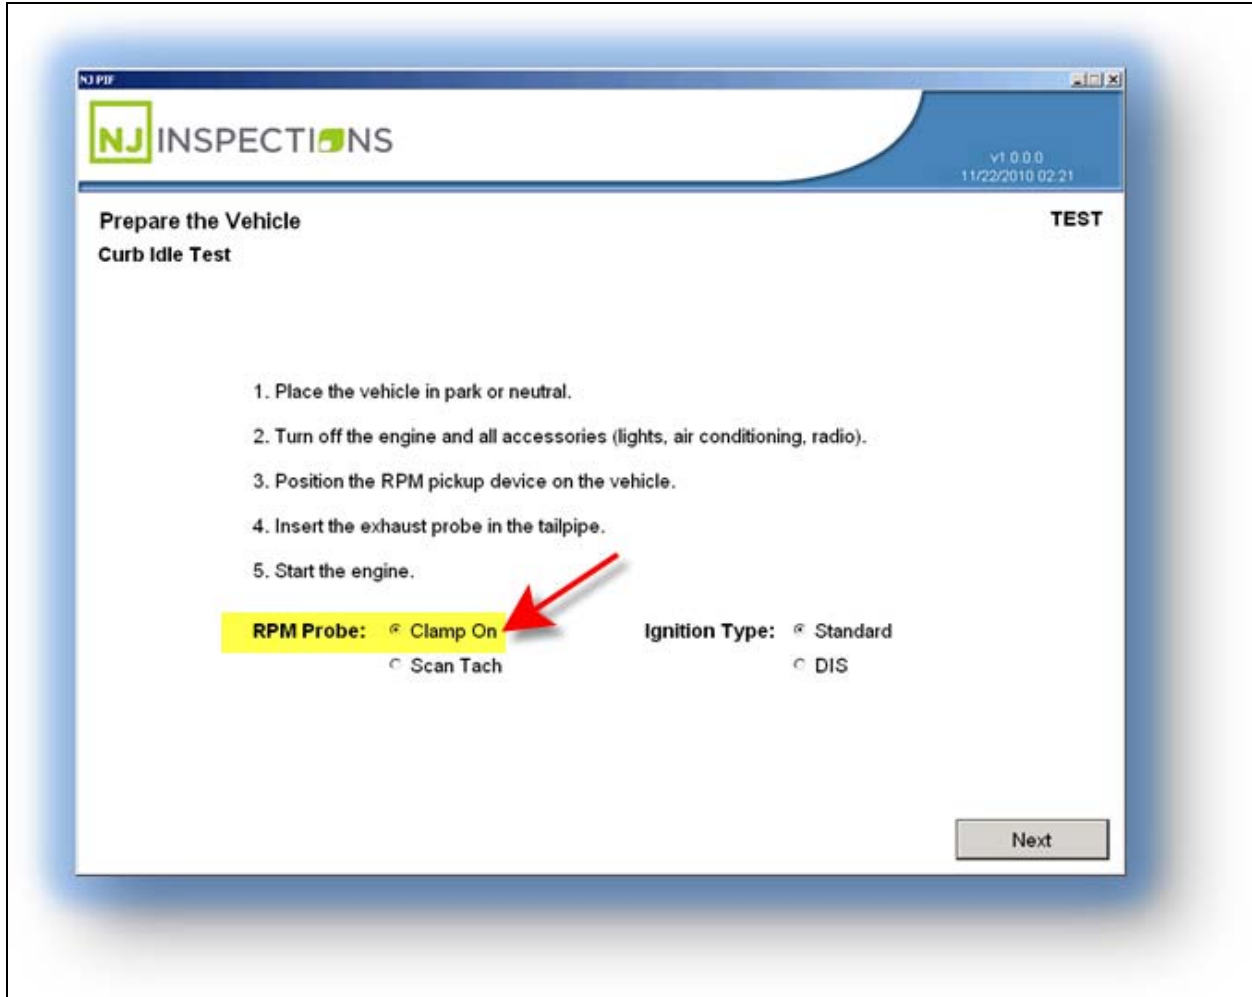

Figure 4-3: “Prepare the Vehicle” application screen
| Figure 4-3: “Prepare the Vehicle” application screen..... | 7  |
- On the “**Prepare the Vehicle**” application screen (See Figure 4-3 below), please be sure to: